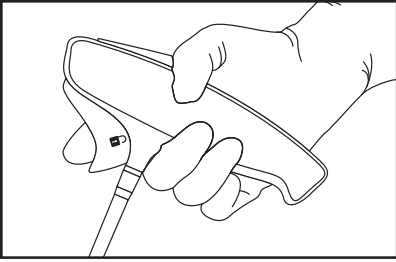
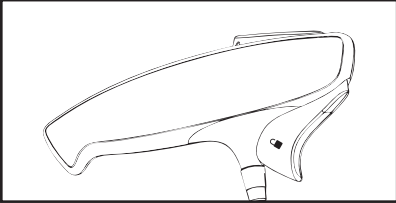

Figure 2. Proper hand positioning when holding the applier
Figure 3. Port Applier trigger in the open position
3. Hold the applier as shown (**Figure 2**). Ensure that the RapidPort® EZ Port Applier trigger is in the fully opened position (**Figure 3**).